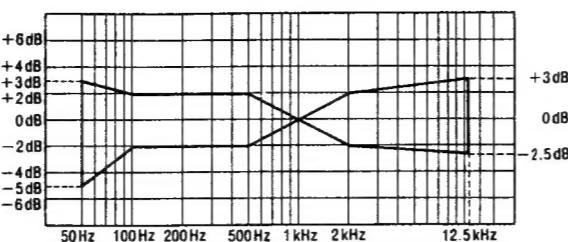

Fig.8
- Playback the recorded signal and assure that it is within the range shown in Fig.8 in comparison to the reference frequency (1 kHz).